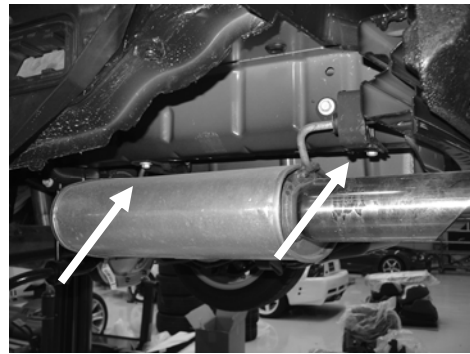
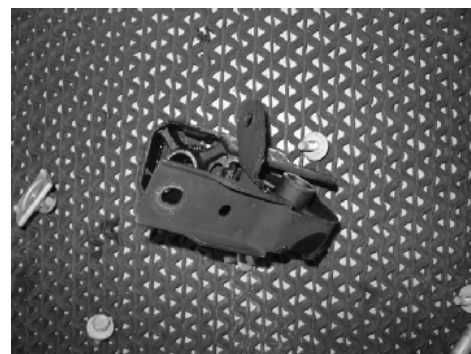

Figure 1
Figure 5
3. Note the orientation of the two brackets located above each muffler that hold each of the two mufflers' hangers in place (Figures 1 and 2). The bracket is shown after removal in Figure 5.